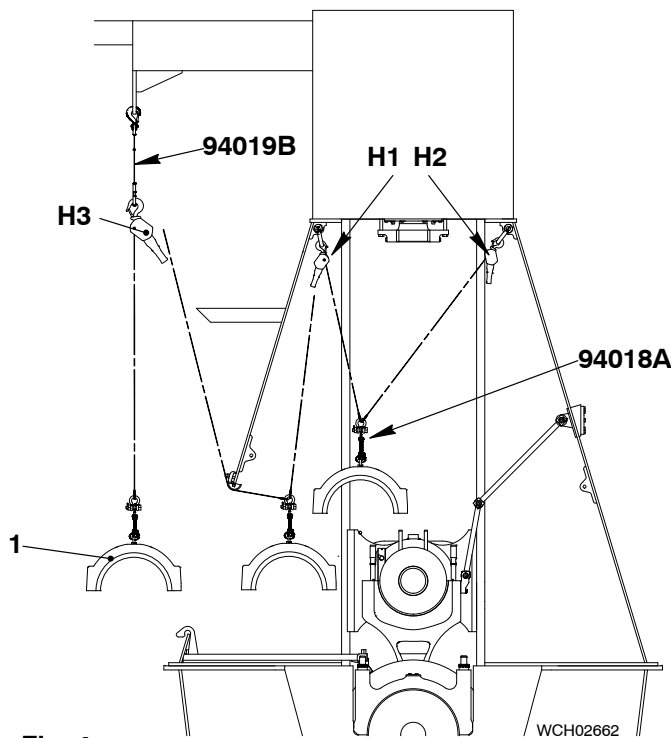

Fig. 4
- 10) Attach the chain (94019B, Fig. 4) to the gallery.
- 16) Operate the manual ratchets (H2, H3) to move the bearing cover (1) to the fuel side.
- 17) Lower the bearing cover (1) to an applicable surface.
- 18) If necessary, remove the chain (94019C) from the bearing cover (1).
- 19) Do an inspection of the bearing cover (1). If necessary, replace the bearing cover.